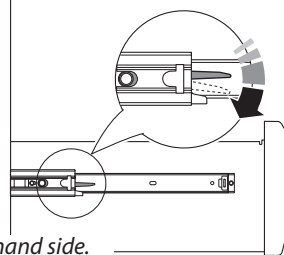
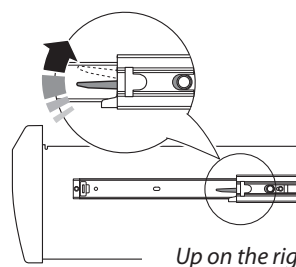

Fig. 12.9
Fig. 12.10
2. Push the ends of the plastic clips (**Fig. 12.9** and **Fig. 12.10**) to release the catches holding the drawer to the side runners. At the same time pull the drawer forward and away from the side runners.